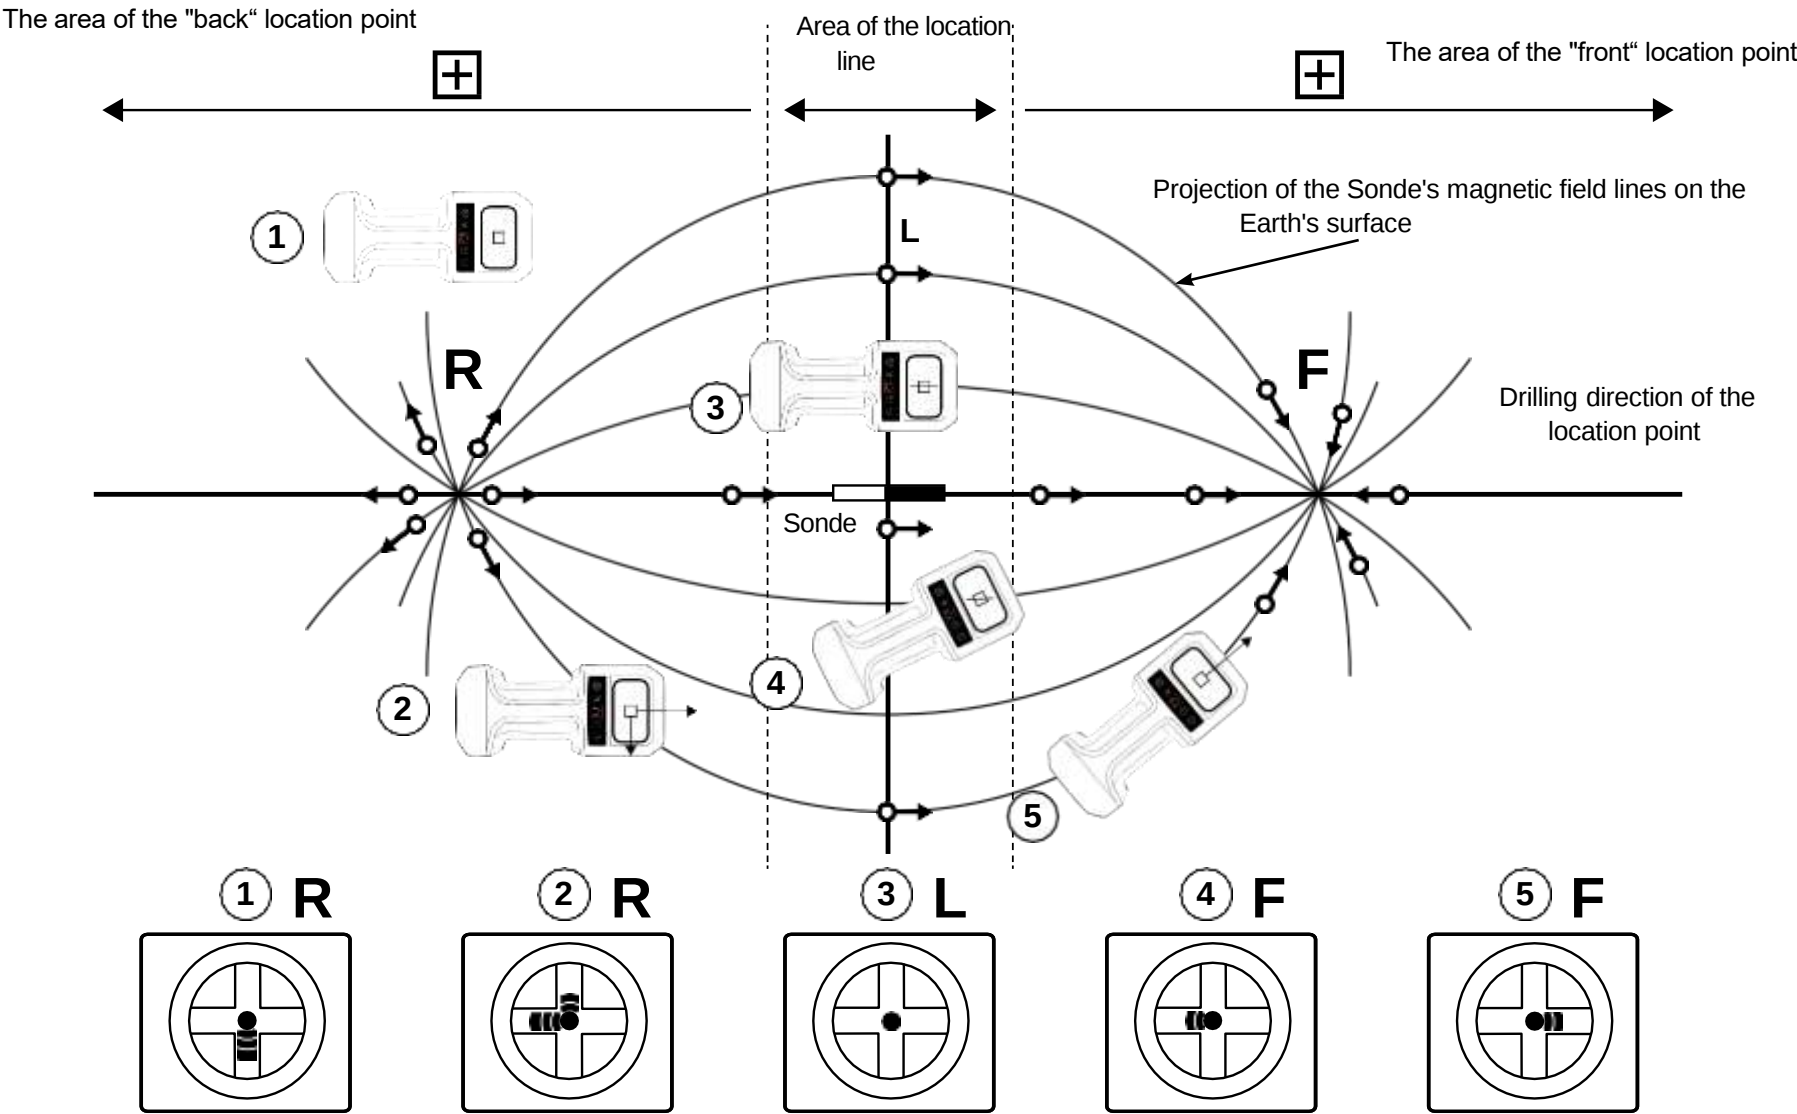

Fig.10. Displaying the relative positions of the Receiver and the Sonde on the display
The example in Figure 10 shows the image options on the screen depending on the relative position of the Sonde and Receiver when moving from the rear to the front location point along an arbitrary trajectory.
The location of the Sonde underground is reliably determined by the location of two characteristic points (R and F), as well as the line (L) of the location on the earth's surface, which were mentioned in paragraph 5.2 (see Fig. 10).The process of determining the location (localization) of the Sonde consists in searching for these points and the location line. The direction of movement during the search is indicated on the screen by darkened "cross" sectors in the center of the display, which decrease when moving in the right direction.